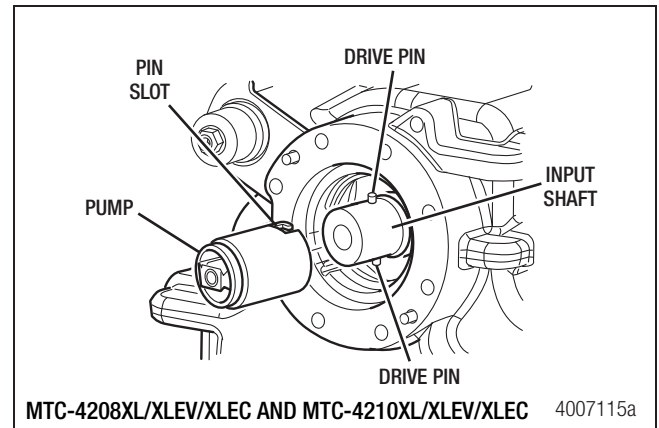

Figure 5.11
3. Remove the pump by applying forward pressure to the pump assembly and disengage the assembly from the oil pump drive pins located on the rear half on the input shaft. Figure 5.11.